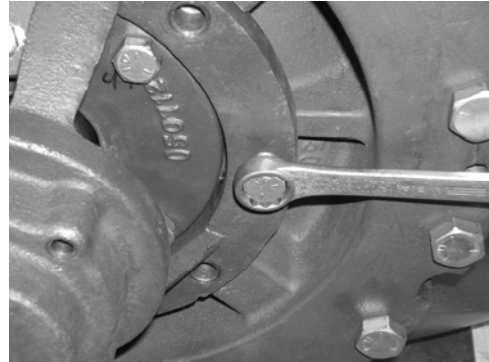
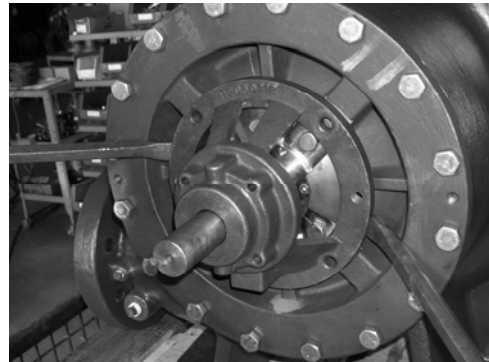

Figure 23: Removing the Outboard Bearing Bracket Using Jacking Screws
Figure 24: Removing the Inboard Bearing Bracket Using Pry Bars
5. Remove the bearing bracket using jacking screws. (See Figure 23.) Pry bars may also be used. (See Figure 24.)